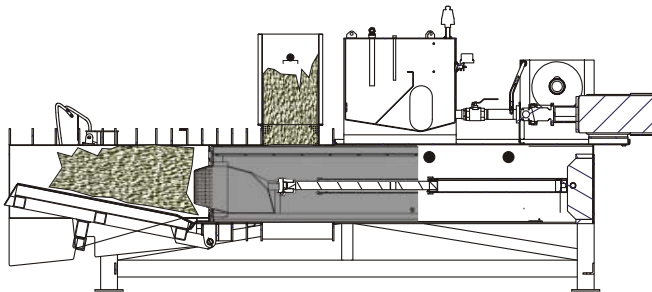

Figure 27 - Plunger Extends, Product Falling On Top Of Plunger
5. **PLUNGER STOPS** The plunger stops at full extension (home position), product piling on plunger. PROX3 and PROX2 are deactivated (see Figure 27 page 12).
5. **PLUNGER STOPS** The plunger stops at full extension and delaying according to PRODUCT DELAY pot #1, PROX3 and PROX2 are deactivated (see Figure 27).